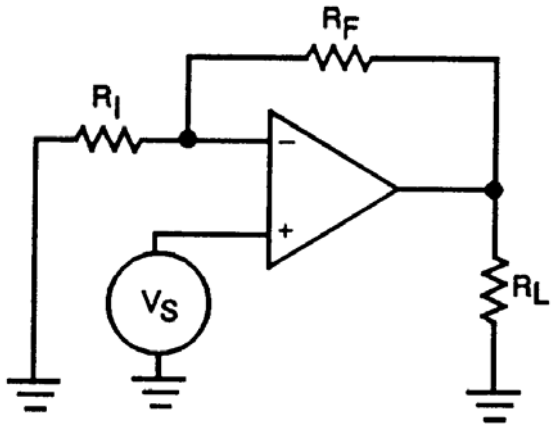

Figure Q-36. Noninverting Amplifier
(2) Figure Q-36 shows a noninverting amp with feedback going to the inverting input and the same results will be obtained as with the inverting type amp.